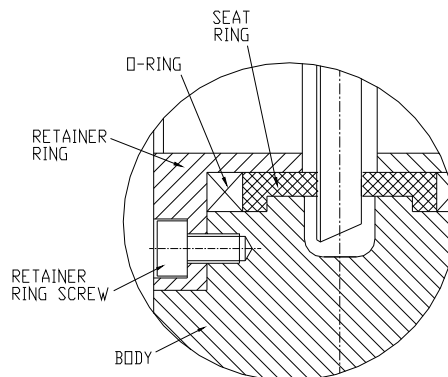

Figure 7
- E. Place the new seat rings over the o-rings on the retainers (The retaining lip on the seat should be placed against the o-ring) as shown in figure 7.